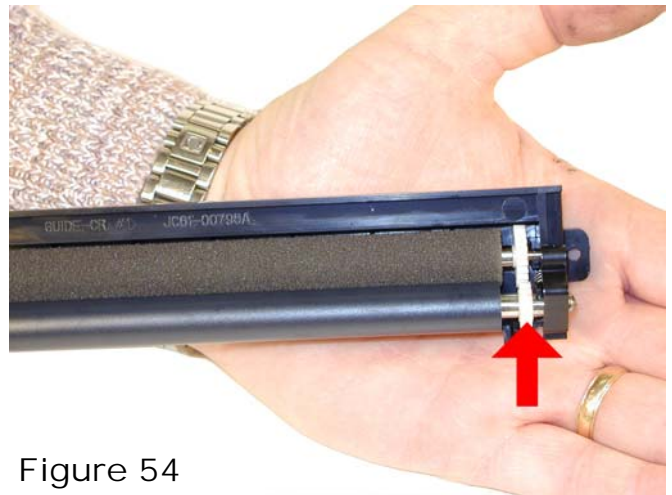

Figure 54
47) Set the two white gears so they mesh again. Failure to do this will allow a buildup on the PCR, ghosting and/or back-grounding will then occur. See **Figure 54**